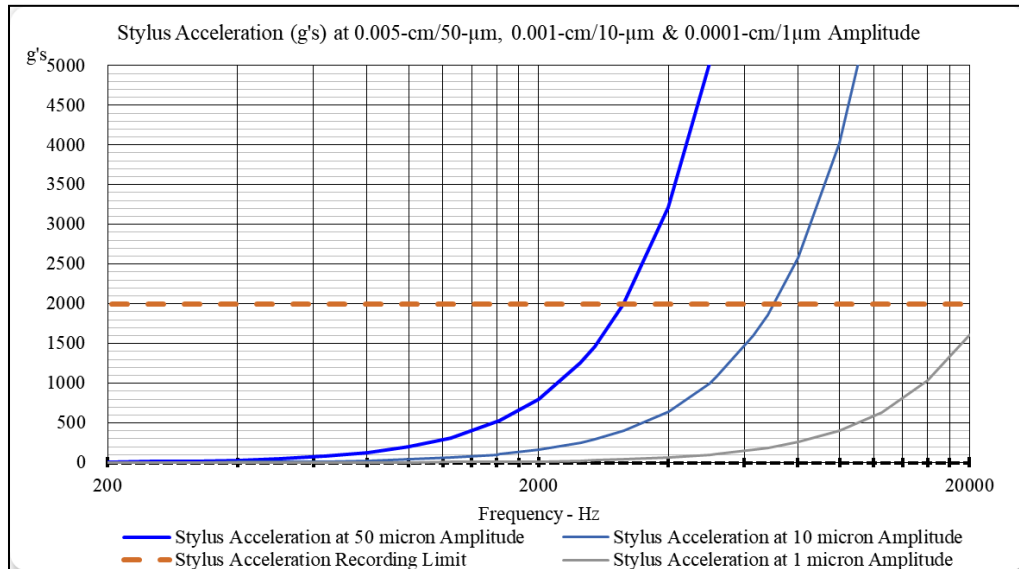
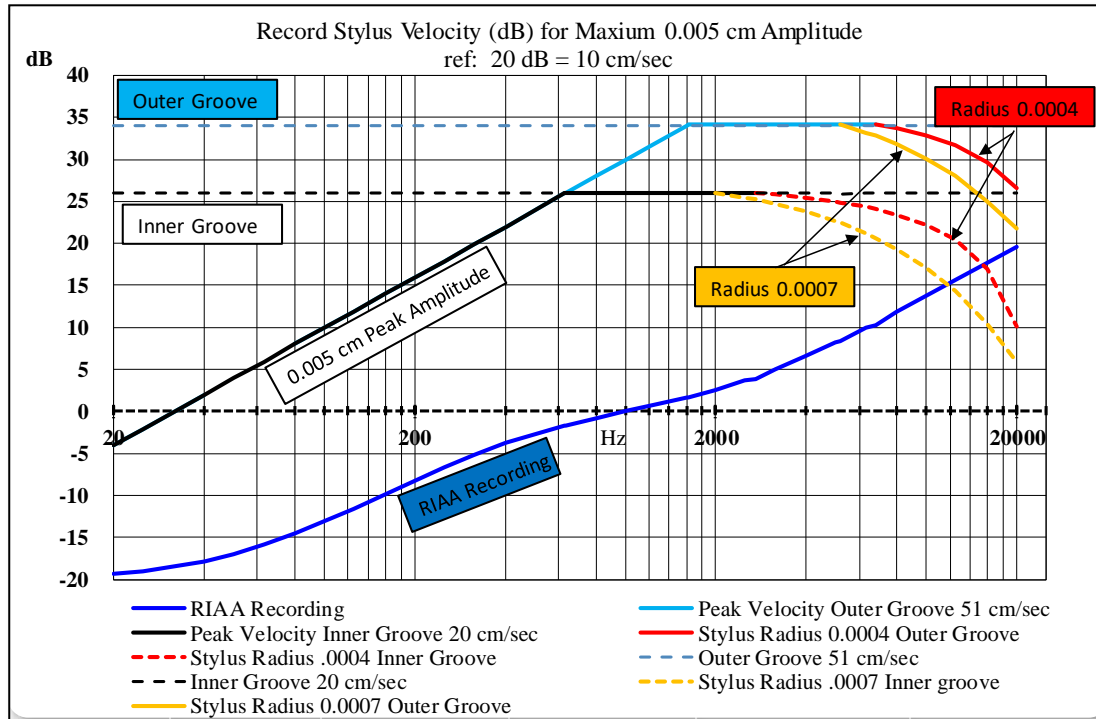

Figure 44 – Stylus Acceleration
Figure 45 – Record Groove Velocity
XI.4.3 There are three limiting factors when recording records, the stylus velocity, stylus acceleration and stylus radius. The amplitude equation above is usable for frequencies greater than 1000 Hz since at lower frequencies the amplitudes would be unreasonably large and because of this, the *Recording Industry Association of America*® (RIAA) recording curve attenuates the lower frequencies. Acceleration becomes limiting as the frequency increases as shown **Figure 44** and to correct recording engineers will often adjust the recording signal to limit acceleration to about 2000-g's (depending on the cutting head limitations) along with the RIAA® recording curve that amplifies high frequencies.
XI.4.4 **Figure 45** shows the RIAA™ recording curve, the peak groove-stylus velocity at a maximum recording amplitude of 0.005 cm/50 microns at the inner and outer grooves (per the equations in **paragraph XI.4.2**) and examples of the effect of stylus tip radius limiting the groove velocity. A radius of 0.0004 cm/4- μ m would be similar to a Shibata type stylus shape while the 0.0007 cm/7- μ m radius would be similar to an elliptical type stylus.
XI.4.5 Graphs presenting groove velocity, amplitude and stylus radii can also be found in *STEREOPHILE Chart File No. 8 Record Groove Parameters*, J. Gordon Holt, *The Stereophile Magazine Vol.1 No. 8, August 1964 (38)* and “*Disc cutting in theory*, Hugh Finimore, *Studio Sound and Broadcast Engineering, July 1975” (35)*. The following is provided to better understand **Figure 45**.
- XI.4.5.b Groove modulations produce sine-waves and these have curves with a radius defined by the square of the linear (tangential) velocity divided by the stylus acceleration (**paragraph XI.4.2**) The (tip) radius of the stylus is tracing these curves. At higher frequencies, the radius of the sine-wave curve decrease. If the radius of the sine-wave curves becomes less than the stylus tip radius, the stylus will be unable to trace the modulations and “...the stylus loses its ability to follow the modulations accurately and tends to “gloss over them (38)” leading to loss of signal output and distortion. A conical stylus that can have a tip radius of 0.0018-cm (not shown **Figure 45**) has difficulty in tracking high frequency peak velocities and amplitudes.
- XI.4.6 Why are we concerned with these groove and stylus details? While the recording industry is often focused on the maximum peak velocity that can be recorded, from a precision clean perspective the opposite is of interest; and understanding the very small modulations and large accelerations involved provides insight to how small amounts of contamination can have an impact. The higher frequencies appear to be the most sensitive. Reviewing **Figure 44**, in order to limit stylus acceleration, the amplitude at the higher frequencies may be very small on the order of 1 micron with values as small as 0.1 micron reported (*An LP Primer, Robert Harley The Absolute Sound June/July 2007 (68)*). Reviewing **Figure 45**, technically, the area under the peak velocity lines can have recorded music, but the lowest groove velocities may only be used for records with a large dynamic range. Shure™ did a survey of the groove velocity of records that was reported in the paper *Design Considerations of the VI5 Type IV Phonograph Cartridge, L. R. Happ (43) delivered at a 1978 technical seminar on phonograph cartridges*. The majority of records were recorded at 6 dB (2 cm/sec) and greater.